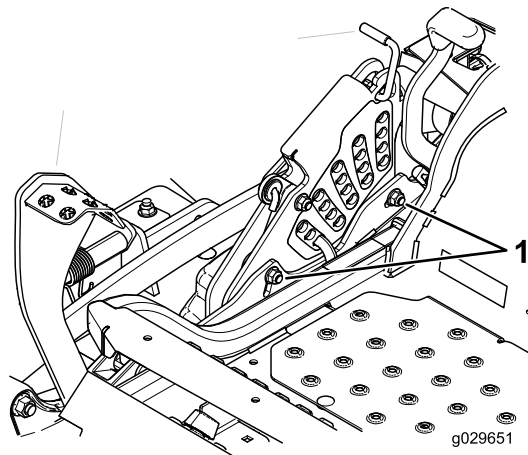

Figure 94
11. To adjust the single-point system, loosen the 2 bolts at the bottom of the height-of-cut plate (Figure 94).
13. Tighten the 2 bolts at the bottom of the height-of-cut plate (Figure 94). T